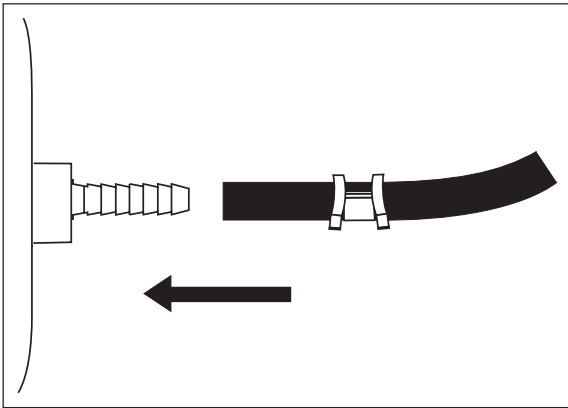

Figure 4
6. Push the air line onto the stem, covering all the barbs (Figure 4). With the pliers, slide the air line clamp upward until it fully covers the barbed section.
7. Push the remaining air line over the last fitting on tee and route along frame to desired inflation valve location (Figure 4). Attach with plastic straps or wire.